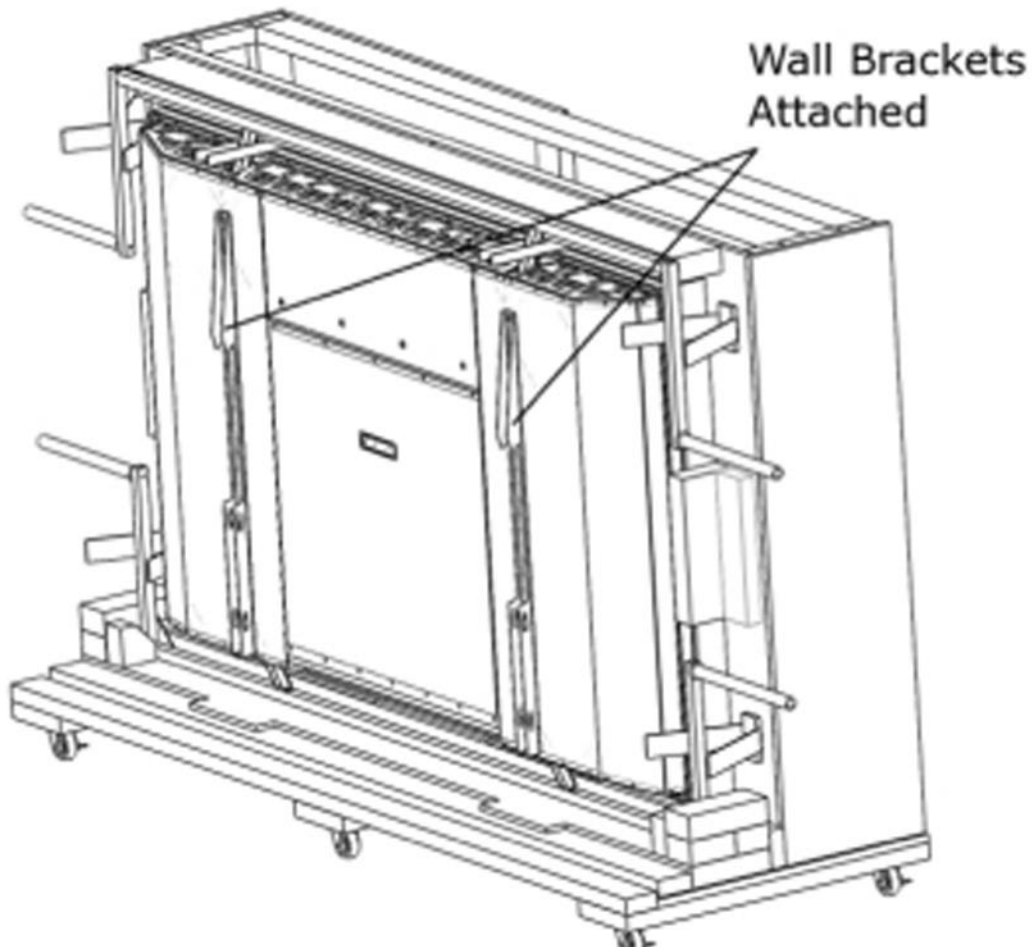

Figure 6. Wall mount brackets attached. Note the orientation of the brackets with the bracket slots at the bottom.
3. While the PPI 82" Touch Device is still in the crate, install the metal wall mount brackets with the M8x25 button head cap thumbscrews. Tighten the bolts completely. Industry standards recommend the following amount of torque: 24 N-m (212 in-lb). Mount the brackets so that the slots on the side are the bottom end as shown in figure 6.